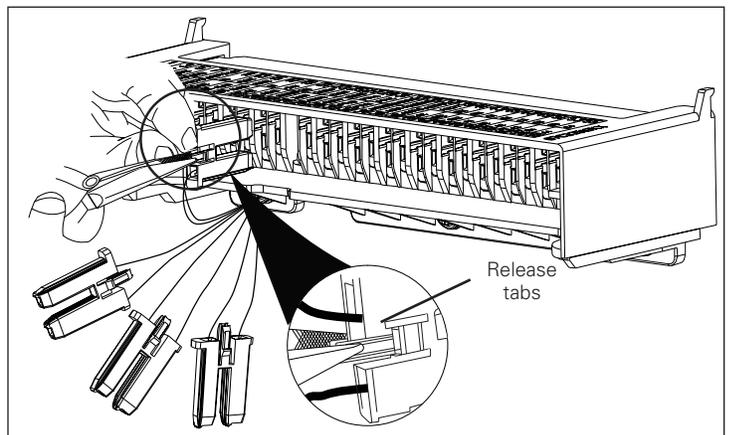

Figure 18. Connector plug removal.
2. Secondary connections are made by plugging the connector plugs into the appropriate location with a matching number label. A connector plug already connected can be removed by squeezing two release tabs together with small needle nose pliers and pulling out (Figure 18).
**Step 5:** To remove an accessory plug on a fixed circuit breaker, the appropriate fixed secondary terminal block must first be removed. To remove a fixed secondary terminal block, lift up on the small flexible mounting tab at the top of the fixed terminal block mounting plate, and rotate the terminal block out in the opposite direction shown in step 4. Once the terminal block is removed, the accessory connector plug can be unplugged from the bottom of the terminal block. Refer to Item 2 and Figure 18 under the heading "General Information" in Section 4 for detailed assistance with the removal.
**Step 3:** To remove an accessory connector plug on a drawout circuit breaker, unplug it from its secondary plug housing. Refer to Item 2 and Figure 18 under the heading “General information” in this section for detailed assistance with the removal.